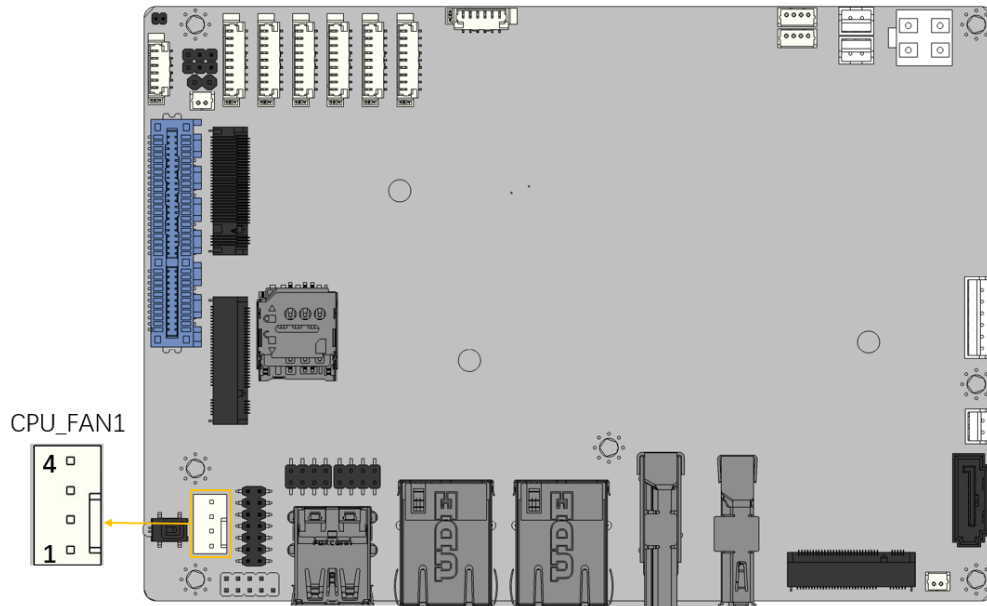

Figure 3-12: Fan Connector Location
- CN Location:** See **Figure 3-12**